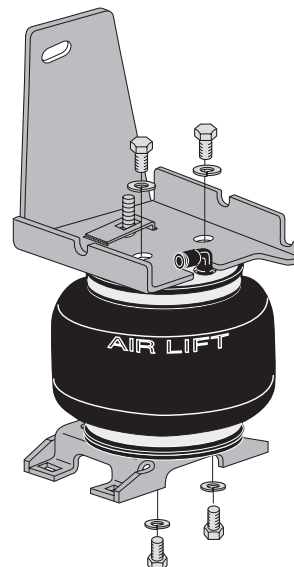

fig. 3
5. Use the lower bracket template provided at the back of the manual to determine the proper mounting location for the bellow. Use the holes marked "C" for mounting. Attach lower bracket (C) and backer plate to the bottom of the bellow. Attach so that the bracket offsets to the outside of the axle. Use two bolts (F) and lock washers (L). See Figure 3.